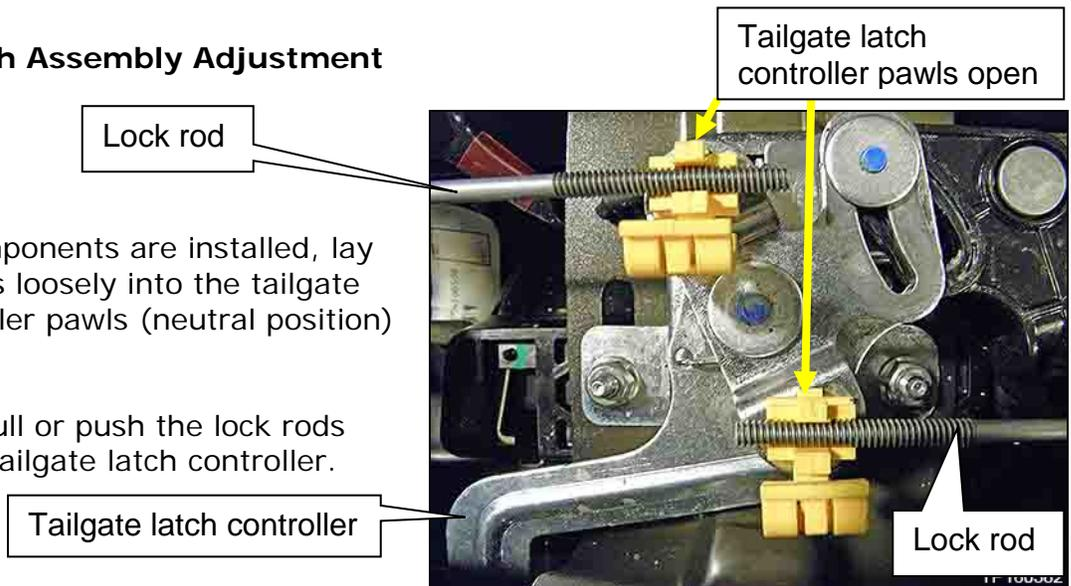

Figure 13
1. After all components are installed, lay the lock rods loosely into the tailgate latch controller pawls (neutral position) (Figure 13).